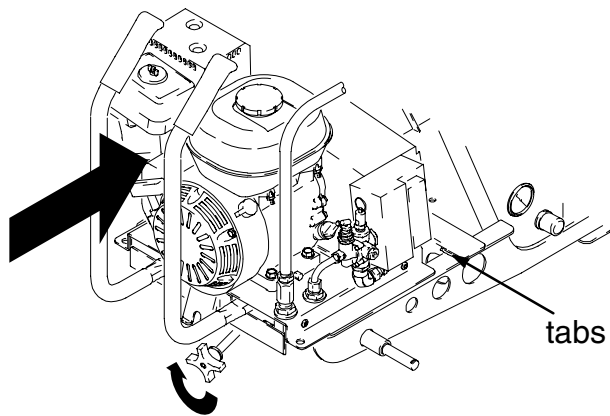
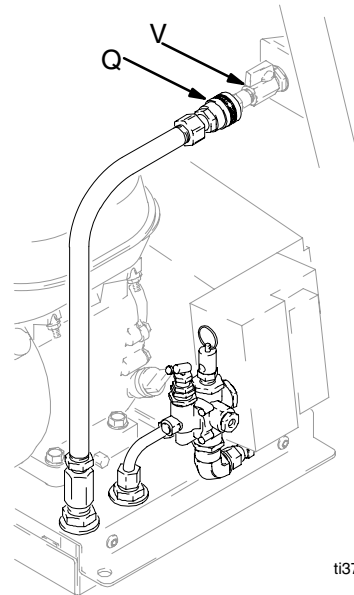

Fig. 6
Fig. 7
4. Slide Compressor Power Pack (Z) forward until front edge meets tabs. Fig. 6.
5. Lift and turn motor lock knob (S) until Compressor Power Pack (Z) is securely attached to the cart.
6. Attach air line quick connect fitting (Q) to compressor air quick connect fitting (V) Fig 7.